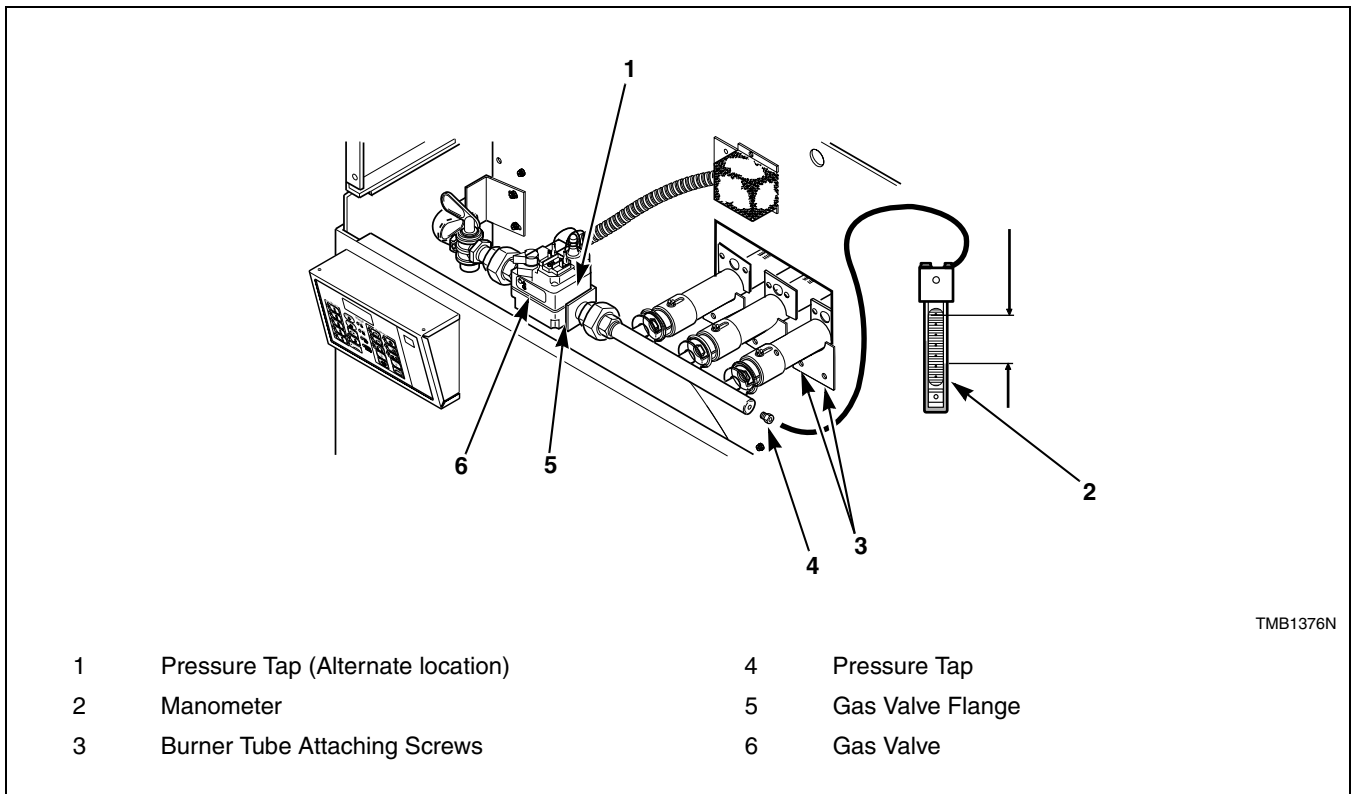

Figure 5
1. Check gas burner orifice (manifold) pressure as follows. Refer to *Figure 5*.